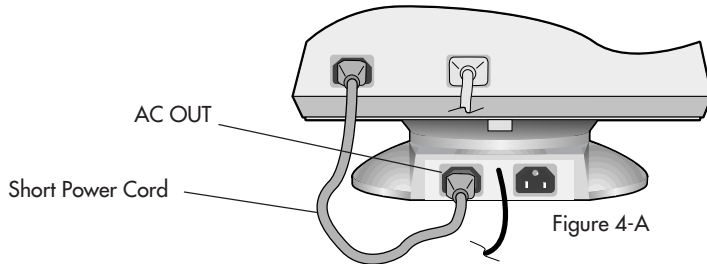

Figure 4-A
STEP 4-A. Connect one end of the short power cord to the connector on the audio base and the other end to the monitor (**Figure 4-A**).
STEP 1-B. Connect one end of the short power cord to the connector on the audio base and the other end to the monitor (**Figure 4-A**).